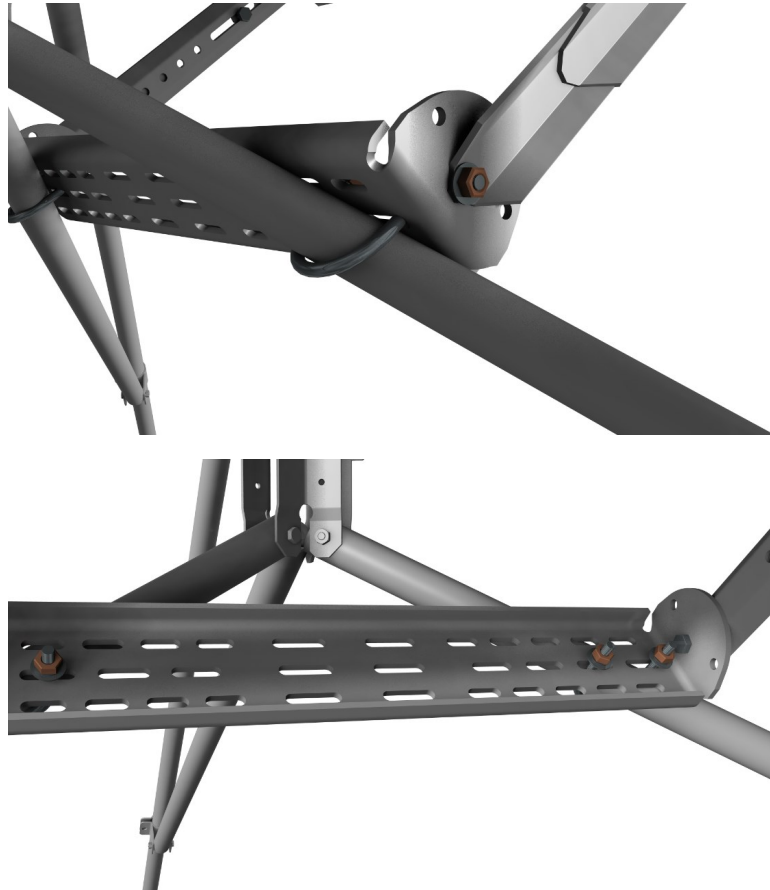

FIGURE 3-13. Attaching the lower mount bracket to the tripod legs
7. Place the lower mount bracket against the tripod leg braces as shown (FIGURE 3-13 (p. 12)). Use U-bolts, washers, lock washers, and nuts from the hardware bag labeled 'Tripod' to mount the bracket on the tripod legs. It may be necessary to rotate the U-bolt so the ends of the bolt pass through holes on different rows in the lower mount bracket. Finger-tighten the nuts. Skip to Extended mount orientation (p. 16).